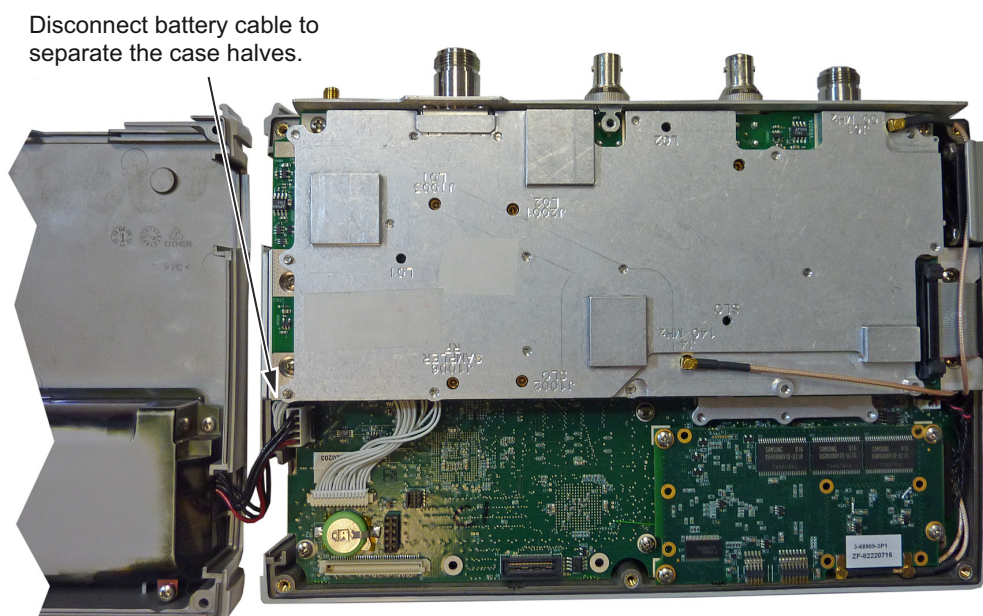

Figure 7-3. Cell Master Opened 180 Degrees
6. Lay the Cell Master flat and remove the battery connector cable between the two halves (Figure 7-3).